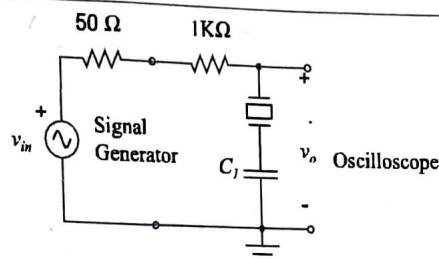

Figure 3: Quartz crystal measurement setup with a series capacitor.
3. Solder a $C_1 = 5.6 \text{ pF}$ capacitor in series with the crystal as shown in Fig. 3. Determine the resonance frequency, f_{s1} , of the new circuit within 10 Hz. Find the difference, δf , between the resonance frequencies with and without 5.6 pF capacitor in series. Note that the minimum voltage observed in this measurement is higher than that in the measurement without the capacitor, since the capacitor, C_1 , also has a finite series resistance of its own.